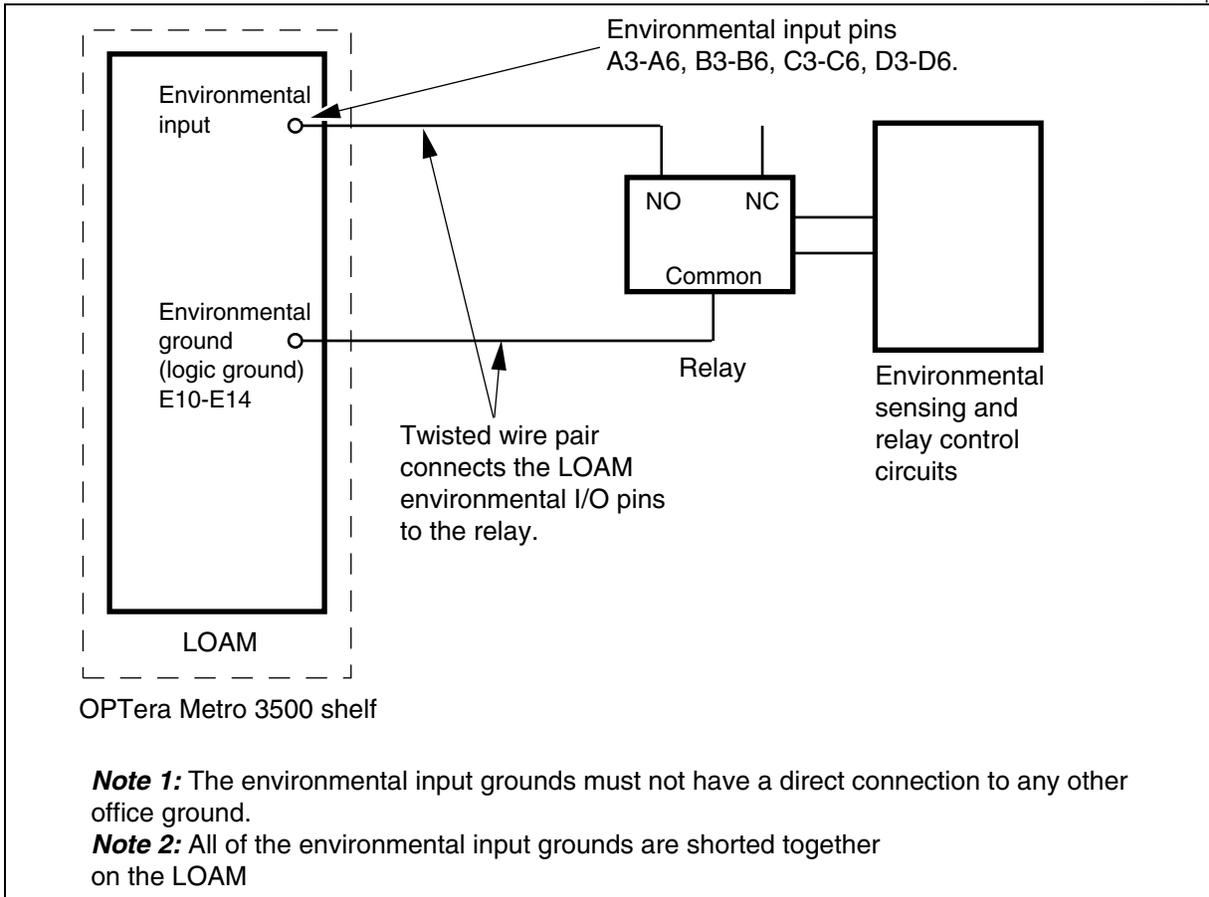
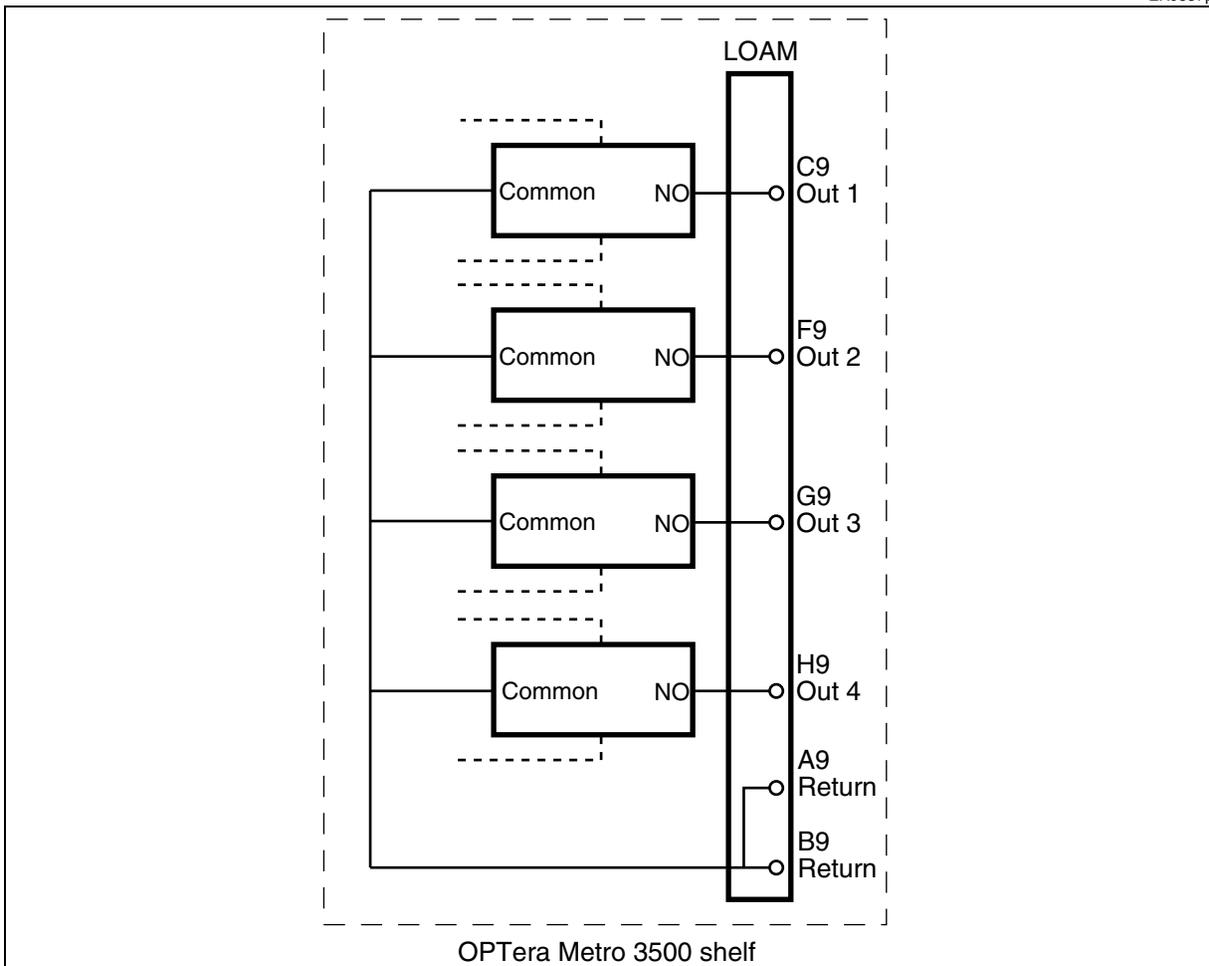
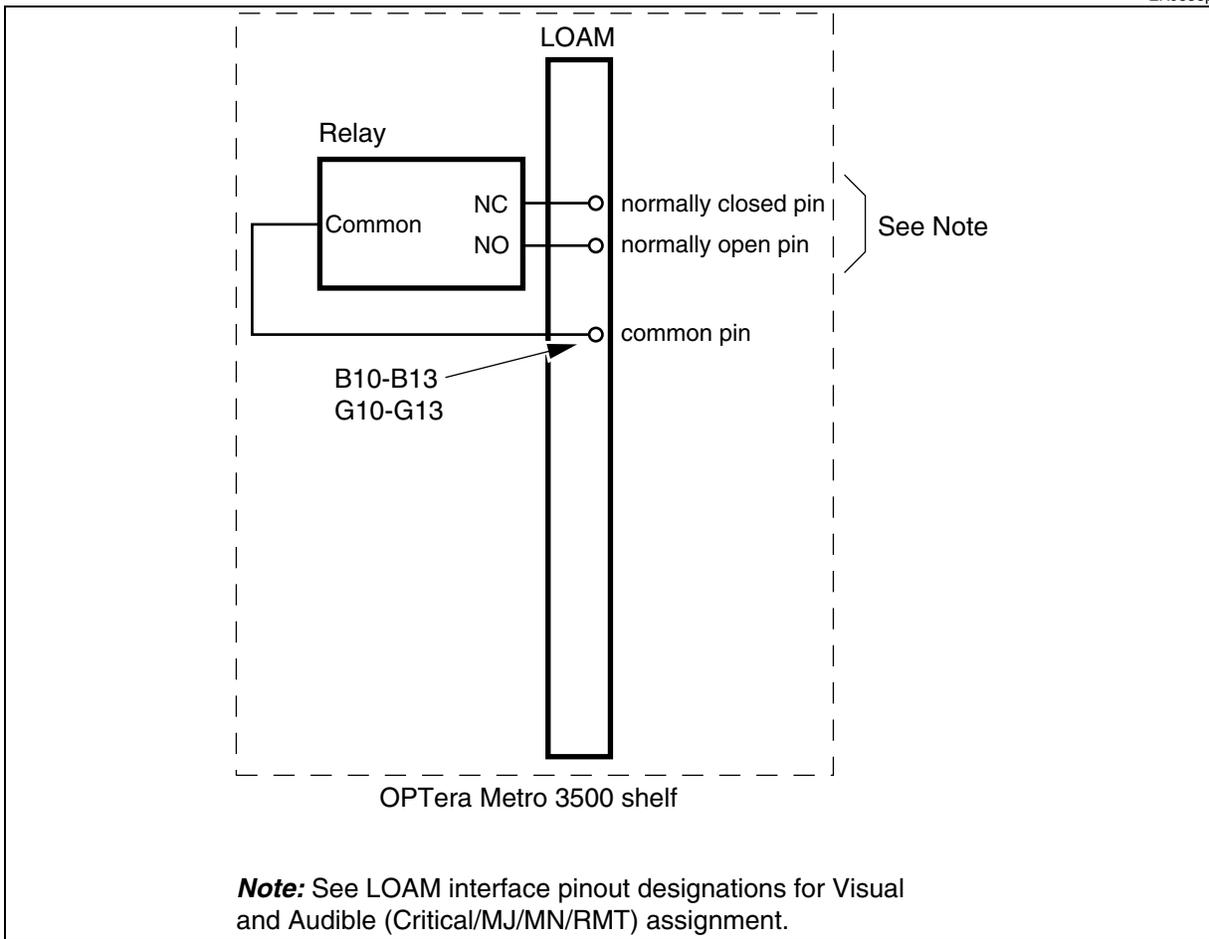

Figure 3-66
Figure 3-67
Figure 3-68
1	<p>Verify the compatibility of your shelf alarm and environmental I/O interfaces. See:</p> <ul style="list-style-type: none"> • Figure 3-65 on page 3-105 for environmental inputs Note: Figure 3-65 on page 3-105 is an example of a circuit of environmental input connections using a relay interface. Environmental inputs are active low. See Figure 3-68 on page 3-108. To drive one of the inputs low, the control circuit must short it to one of the Environmental ground pins. You can use one ground pin for up to three inputs. • Figure 3-66 on page 3-106 for environmental outputs Note: Figure 3-66 on page 3-106 is an example of a circuit of environmental output connections. Each environmental output pin, see Figure 3-68 on page 3-108, connects to a normally open (NO) relay contact on the LOAM. Connect the common contacts on the output relays to the common return (RET) pins. • Figure 3-67 on page 3-107 for shelf alarm relays
Note: Figure 3-67 on page 3-107 is an example circuit of shelf alarm relays. The LOAM shelf alarm pins connect to relays under the control of the shelf processor. When the shelf processor activates an alarm relay, the normally open line connects to the common line and the normally closed (NC) line disconnects from the common line. The NC, NO, and common lines for each shelf alarm relay are isolated from each other, the shelf ground, and the shelf battery return.